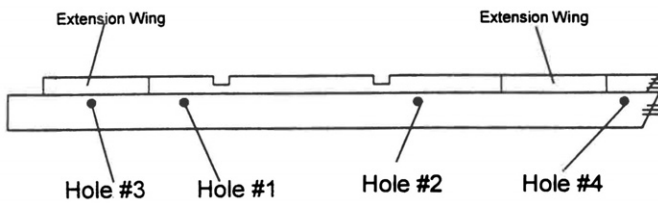

Figure 6
8. Mount the front rail (has holes in both surfaces) using hole #1. See Figure 6.
10. Using hole #2 as a guide, punch and drill the second mounting hole in the table saw. See Figure 6.